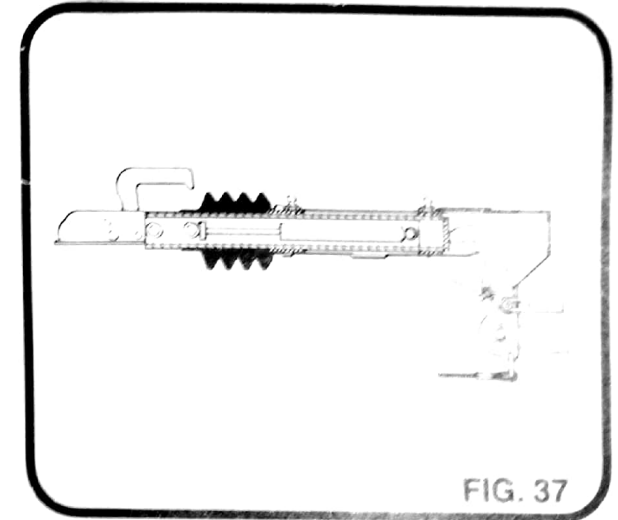

FIG. 37
2.7 Examine and Lubricate the Overrunning Device. (Fig. 37)